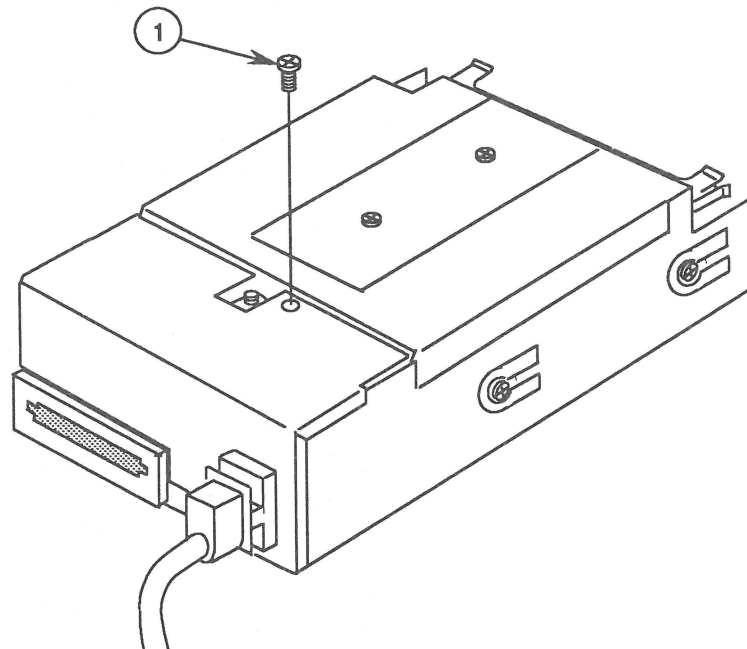

FIGURE 9
2. Remove the mounting screw (Figure 9, #1) from the external drive cable shield.